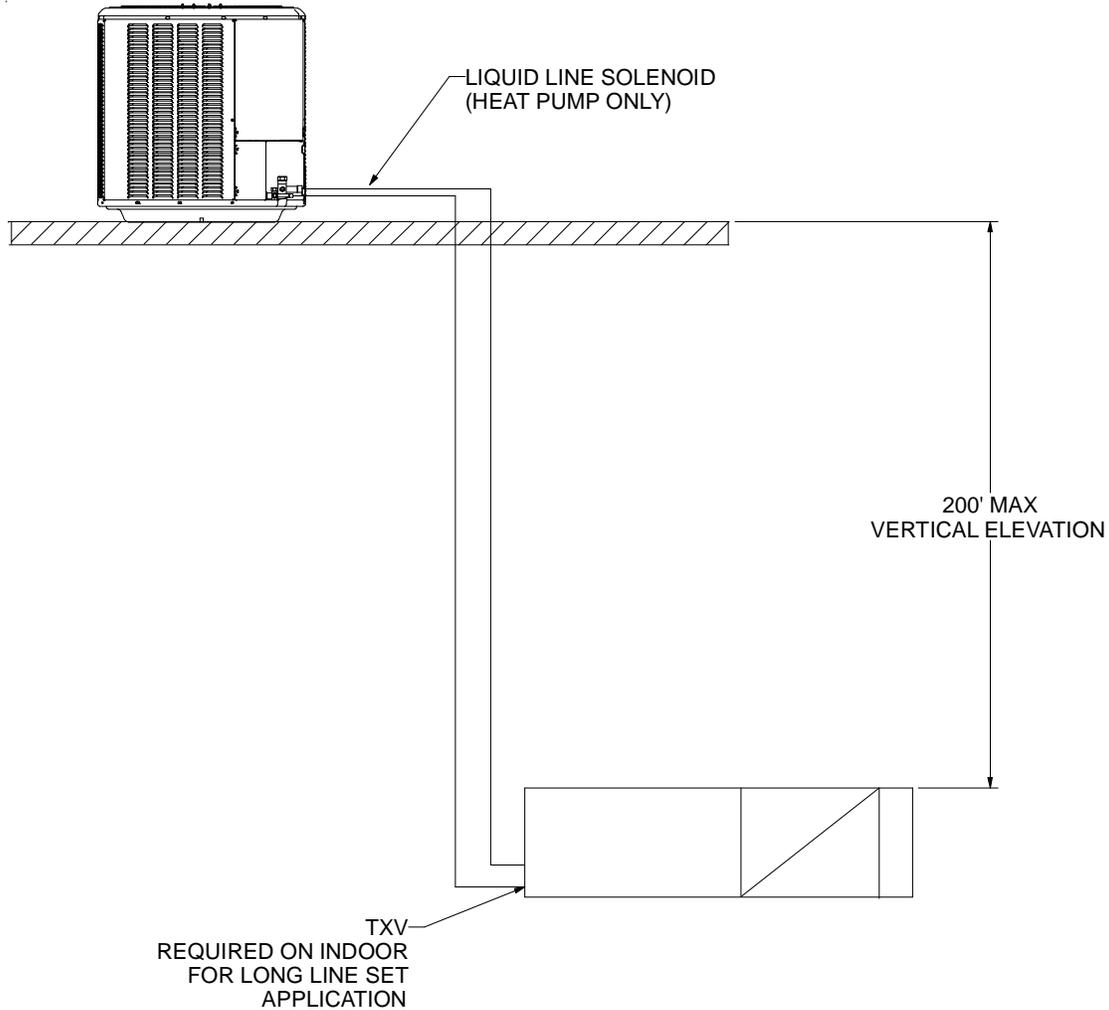

Figure 1-6. Elevation Between Outdoor and Indoor Units
- c. Maximum vertical separation of outdoor unit above indoor unit is **200 feet** (Figure 1-6).
2. The maximum elevation (vertical) difference between the outdoor unit and indoor unit is 200 ft. for single stage heat pump (Figure 1.6).